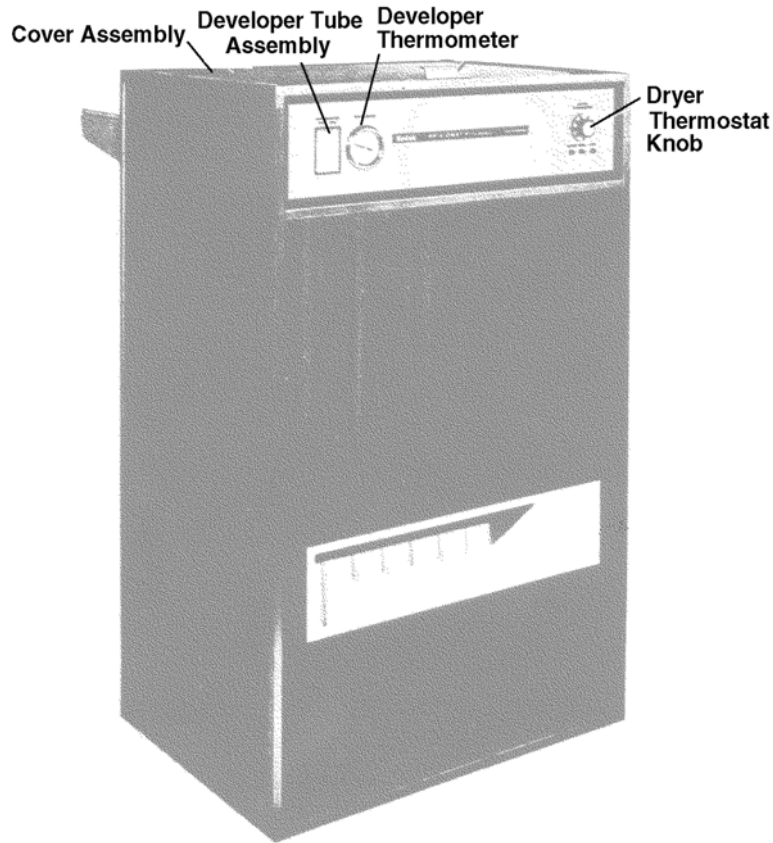

Figure 2-1. X-OMAT X-ray Film Processor.
- (1) Turn the power off.
- (2) Remove the crossover and the squeegee assemblies. Clean the rollers with a damp cloth and wipe them dry. Handle these assemblies carefully to avoid twisting them out of square and to avoid disturbing the guide shoe settings. Refer to figures 2-1 and 2-2.
- (3) Wipe off all chemical deposits in the processing section.